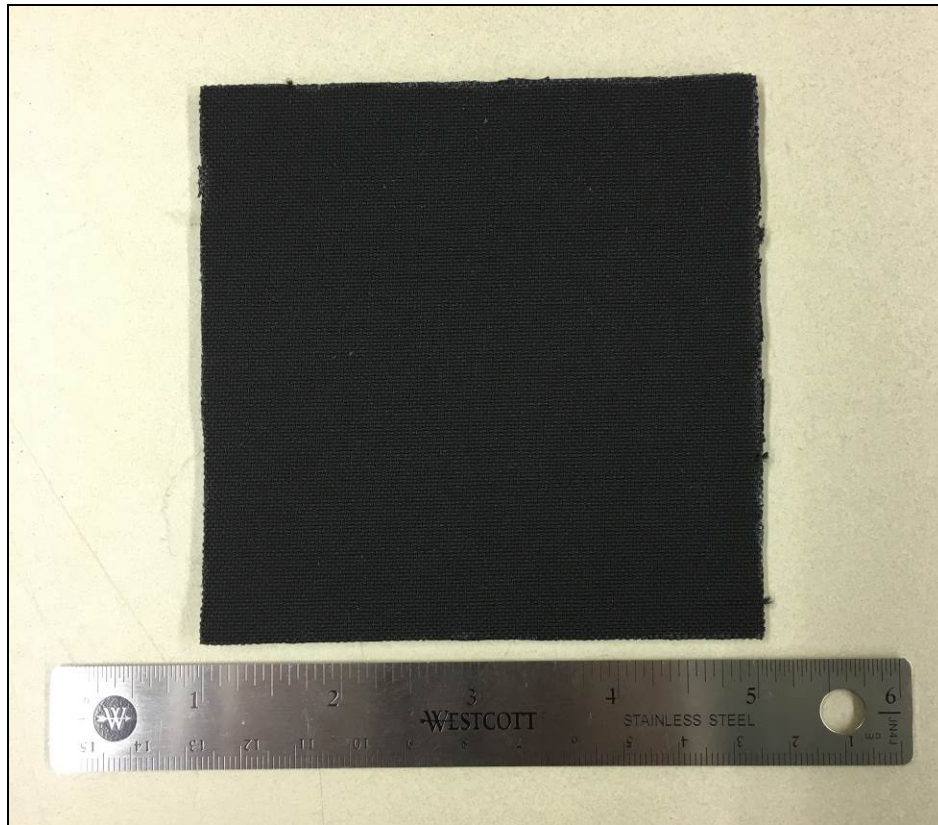

Figure 1: Example of specimen and ruler prior to test
1. Cut a 100 mm by 100 mm specimen from the fabric sample. The specimen shall not contain any decorative stitching and should lay flat (Figure 1). Specimens should have foam laminated at 3mm minimum thickness by a production lamination process for proper evaluation (Figure 2).
3. Place fabric specimen on flat surface with grid board or ruler for reference (Figure 1). Once placed, the fabric and ruler/grid should not be moved.